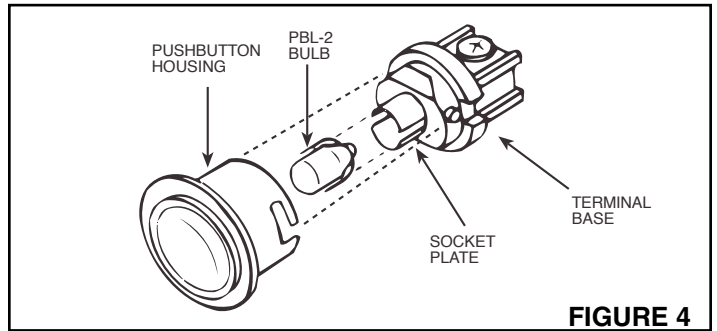

FIGURE 4
1. Twist the terminal base to unlock it from the pushbutton housing. See Figure 4.
2. Insert the bulb into the terminal base. Make sure each bulb wire contacts a socket plate. See Figure 4.